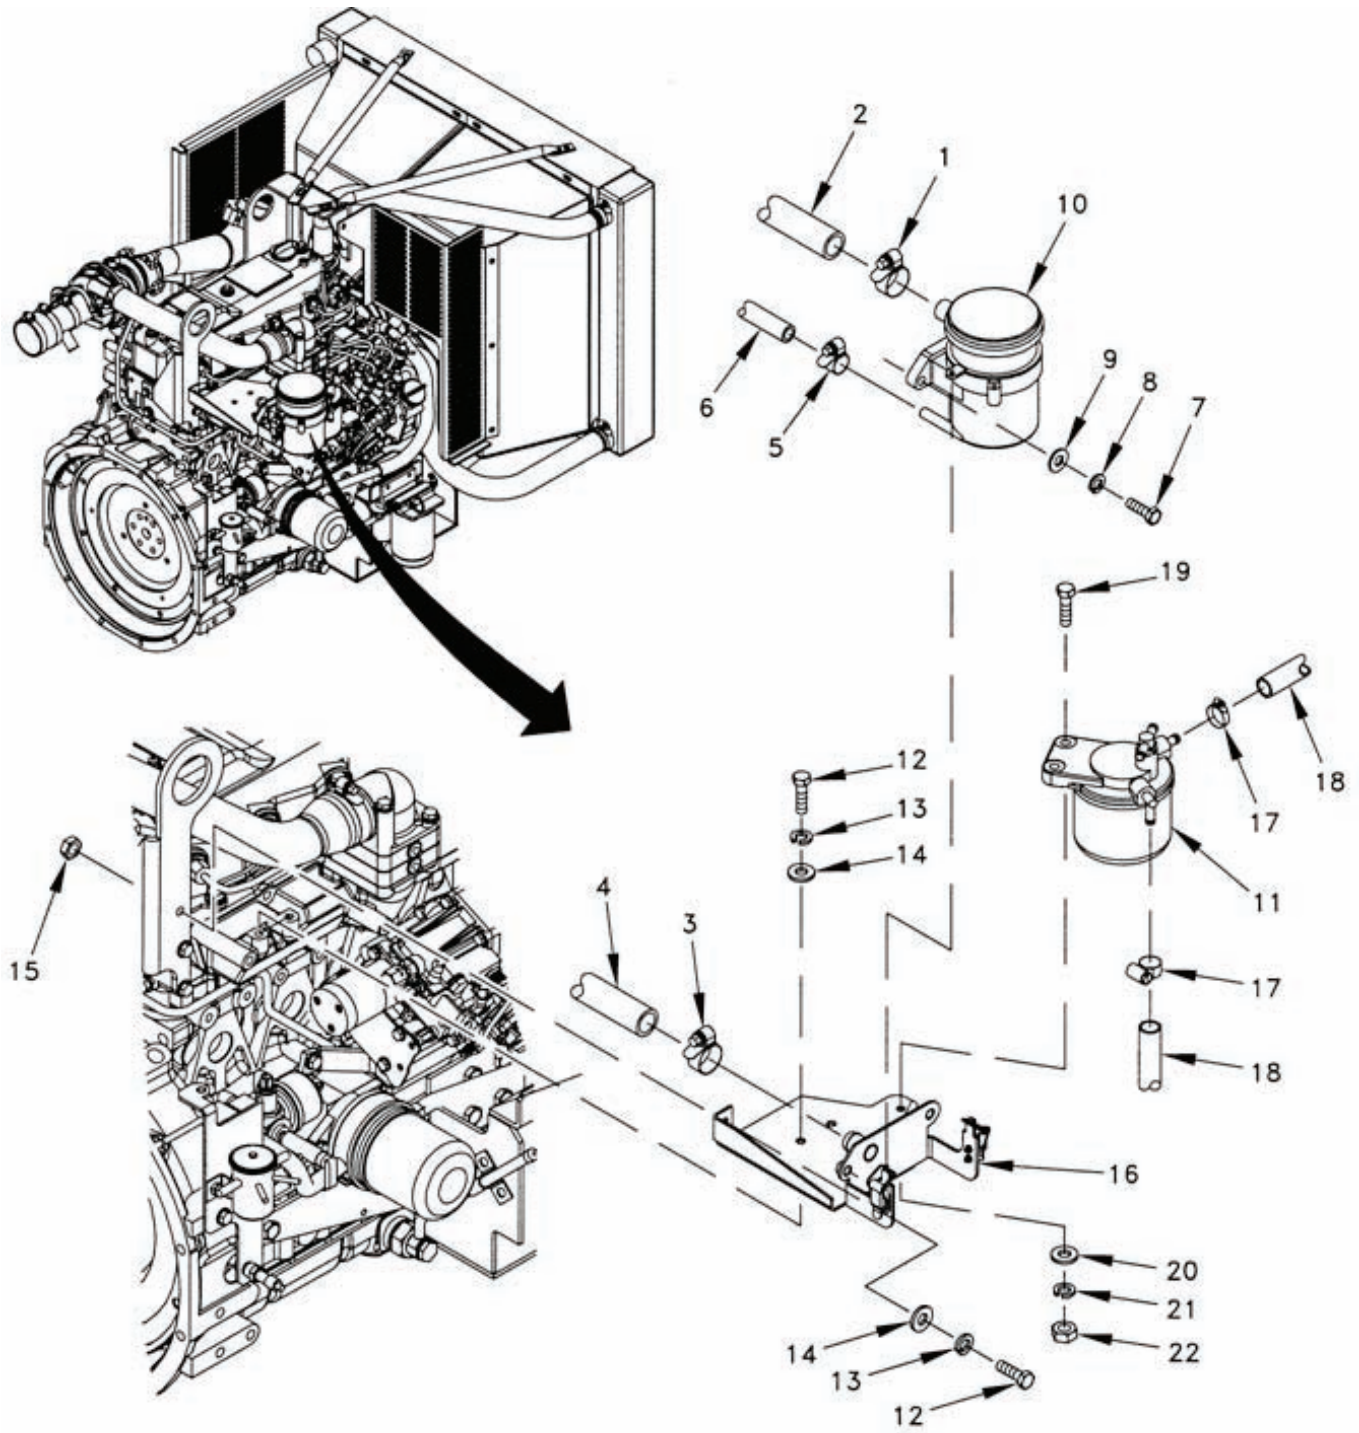

Figure 2-38. CCV Filter and Engine Fuel Filter – MEP-804B/MEP-814B.
- c. Loosen clamp (1, Figure 2-38) and disconnect outlet hose (2) also connected to turbocharger.
- d. Loosen clamp (3) and disconnect inlet hose (4) also connected to top of engine.
- e. Loosen clamp (5) and disconnect hose (6) also connected to fitting on other side of engine.
- f. Remove CCV filter (10) by removing bolts (7), lock washers (8), and washers (9). Discard lock washers (8).
- g. Remove fuel filter (11) (paragraph 2-126.2).
- h. Remove filter bracket (16) by removing bolts (12), lock washers (13), washers (14), and nut (15). Discard lock washers (13).
- a. Install filter bracket (16, Figure 2-38) with bolts (12), new lock washers (13), washers (14), and nut (15).
- b. Install fuel filter (11) (paragraph 2-126.3).
- c. Install CCV filter (10) with bolts (7), new lock washers (8), and washers (9).
- d. Connect hose (6) and tighten clamp (5).
- e. Connect inlet hose (4) and tighten clamp (3).
- f. Connect outlet hose (2) and tighten clamp (1).
- c. Inspect fuel filter (11, Figure 2-38), lines, and fittings for loose connections, damage, and evidence of leaks.
- c. Remove clamps (17, Figure 2-38) and hoses (18) from fuel filter (11).
- d. Remove screws (19), washers (20), lock washers (21), nuts (22), and fuel filter (11). Discard lock washers (21).
- a. Install fuel filter (11, Figure 2-38) with screws (19), washers (20), new lock washers (21), and nuts (22).
- b. Connect hoses (18) and clamps (17) and tighten clamps.